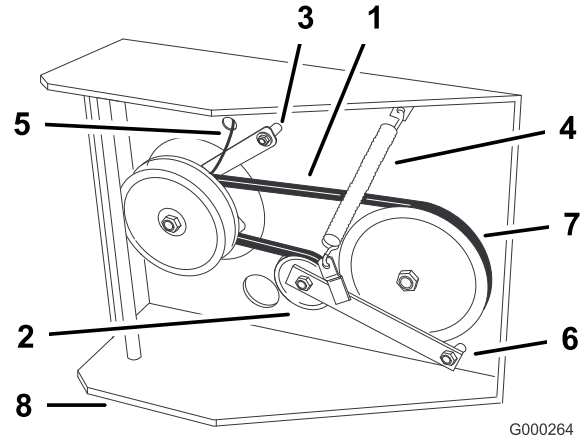

Figure 48
6. Disconnect clutch retainer from the engine deck (Figure 48).
7. Unhook tension spring from side of frame (Figure 48).
10. Torque pivot bolt to 35-40 ft-lb (47-54 N-m). Install tension spring between idler arm and frame bracket (Figure 48).
11. Install clutch retainer to the engine deck (Figure 48).